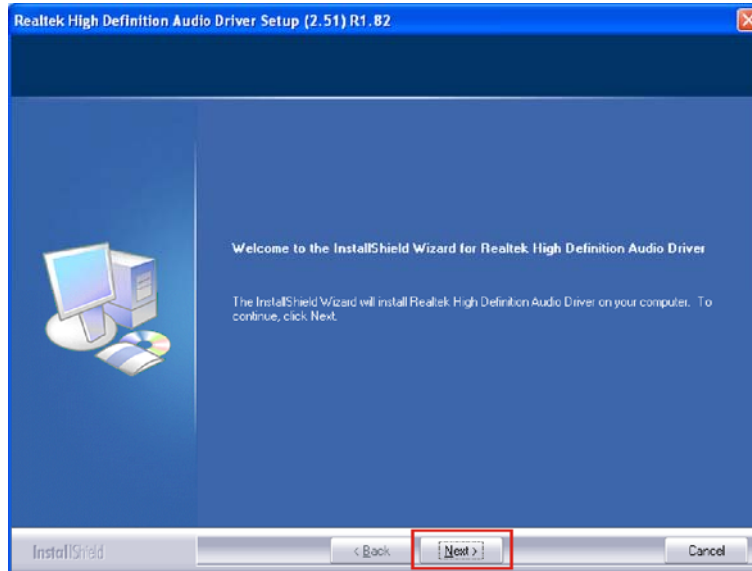

Figure 7-27: HD Audio Driver Installation Welcome Screen
Step 5: The AC'97 Driver Installation screen in **Figure 7-27** appears.